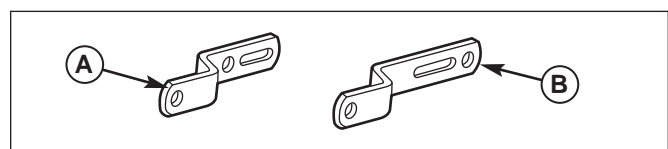

Figure 5. Early/Later Lift Links
The early model lift link (A, Figure 5) was used on early production Conquest/1700/2700 Series tractors. It must be replaced with the later model lift link (B) included with this attachment. The later model link works in all applications. Discard the early model link (A).